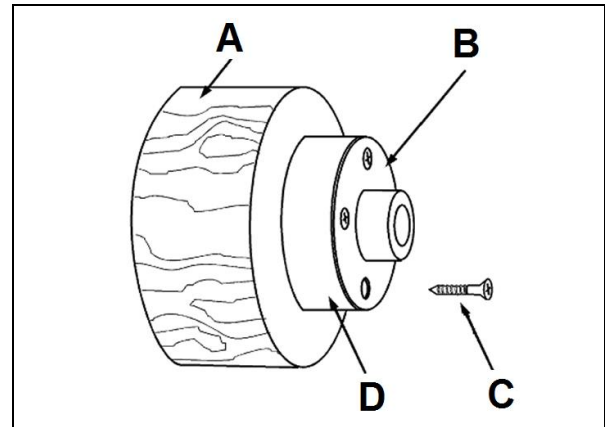

Fig 24
Mount the workpiece (A, Fig 24) directly to the face plate using 4 wood screws (C) from the back. Be careful to use screws short enough not to interfere with the cutting process but long enough to hold the workpiece securely to the face plate.